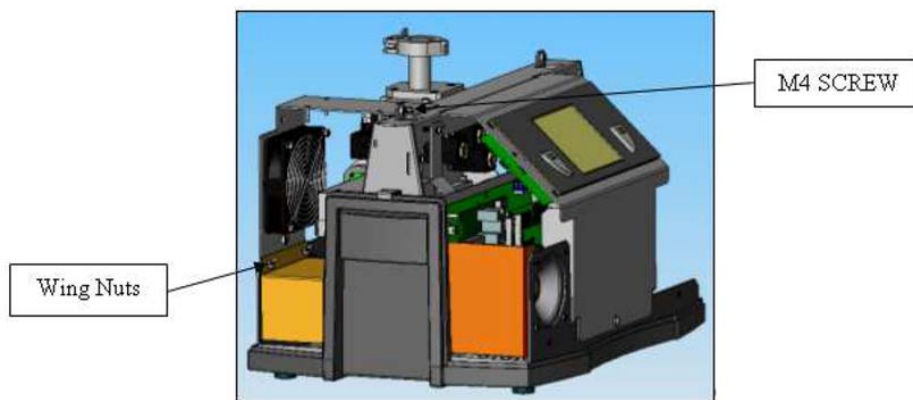

Figure 11 Fan Assembly and Socket Head Cap Screw
- 6 Detach the fan assembly by removing the M4 socket head cap screw and loosening the two wing nuts (Figure 11: Fan Assembly and Socket Head Cap Screw). Place the fan assembly on a flat surface on its back.
- Reinstall the fan assembly by tightening the M4 socket head cap screw and the two wing nuts (Figure 11: Fan Assembly and Socket Head Cap Screw)